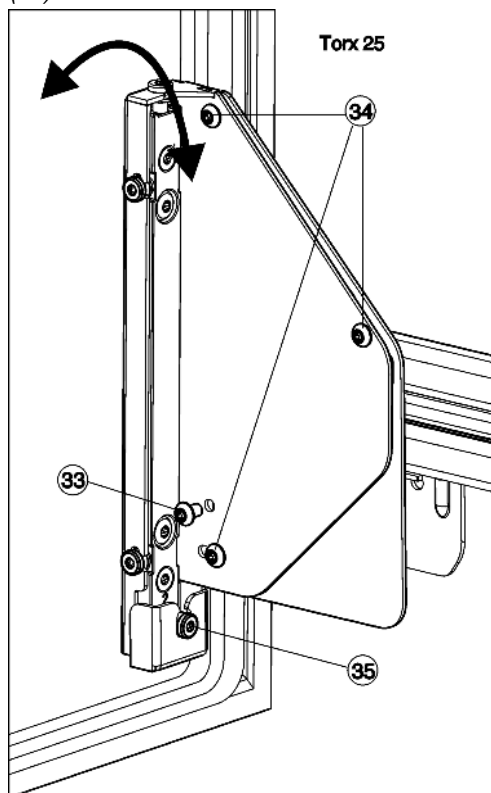

Fig. 27
- Fully unscrew the screws *Fig. 27 (33)*.
- ▷ Dispose of the screws *Fig. 27 (33)* as they will no longer be needed.
- Only loosen the screws *Fig. 27 (34)* with 1 to 2 turns.
- ▶ Turn the adjusting screw *Fig. 27 (35)*. In a clockwise direction: the top of the door tilts away from the appliance body. In an anticlockwise direction: the top of the door tilts towards the appliance and the bottom tilts away from the appliance body.
- ▶ After adjusting the inclination, retighten all screws *Fig. 27 (34)*.